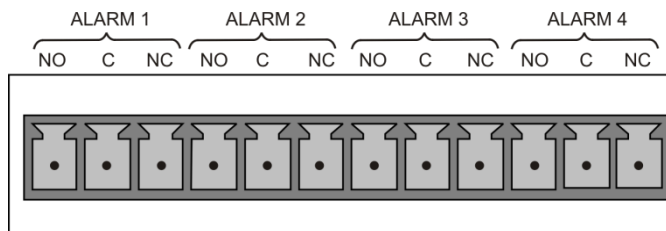

Figure 3-10: Concentration Alarm Relay
This option for four (4) “dry contact” relays is different from and in addition to the “Contact Closures” that come standard on all TAPI instruments. Each relay has 3 pins with connections on the rear panel (refer Figure 3-10): Common (C), Normally Open (NO), and Normally Closed (NC).